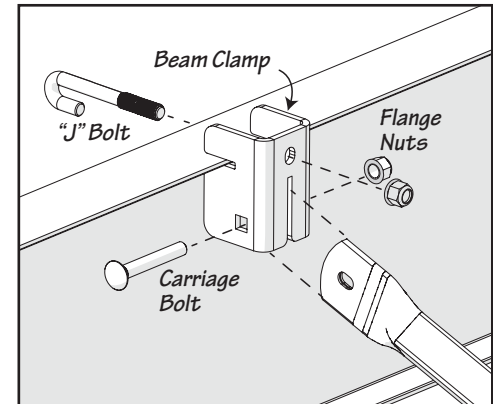

Fig. 4-2
- Slide the beam clamp over the "J" bolt end passing through the top of the beam clamp and slide the clamp over the i-beam frame as shown in Fig. 4-2. Attach flange nut over the "J" bolt and loosely tighten nut.
- Align/insert the lateral strut end in the mounting slot on the bottom of the beam clamp as shown in Fig. 4-2.